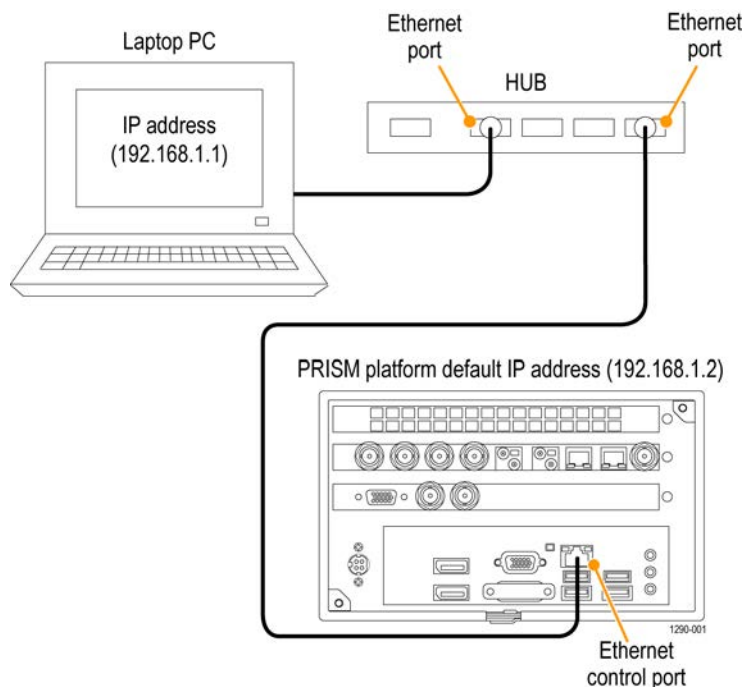

Figure 15: Connecting the instrument to a PC (MPI monitor shown)
1. Connect the instrument directly to a PC with an Ethernet cable. You can also use an Ethernet Switch. (See Figure 15.)